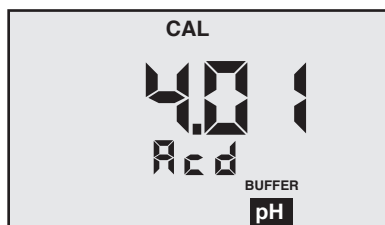

Figure 7
2. At this point the “CAL”, “BUFFER” and “Acd” or “bAS” annunciators will be displayed (see Figures 7 and 8).